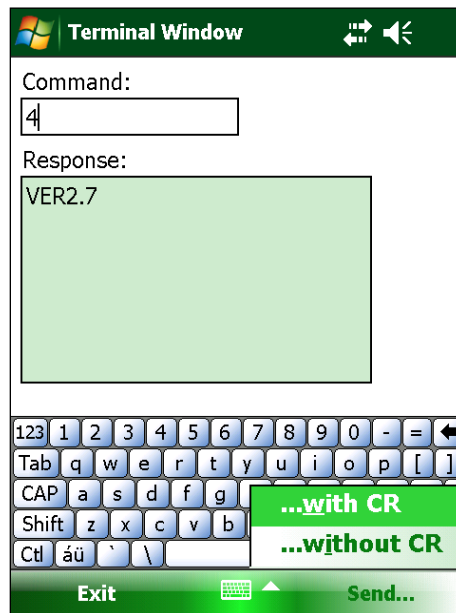

Figure 63 - Terminal Window
If a connection can be made, the window shown in Figure 63 is displayed. Using the "Terminal Window" requires the use of the on-screen keyboard to enter simple one- or two-character commands to the Remote Module. (See Appendix D for more information regarding the Remote Module command structure.)
After typing in a command, tapping the “Return” (Enter) key will cause the command to be sent to the Remote Module. Figure 63 shows the response to a Firmware Version command (4). Alternately, tapping the “Send” menu gives the user the ability to send a character to the Remote Module with or without a Carriage Return (CR) appended to the character string (see bottom right of Figure 63). This is useful when a confirmation character is required (such as for the calibration routine) but no carriage return.